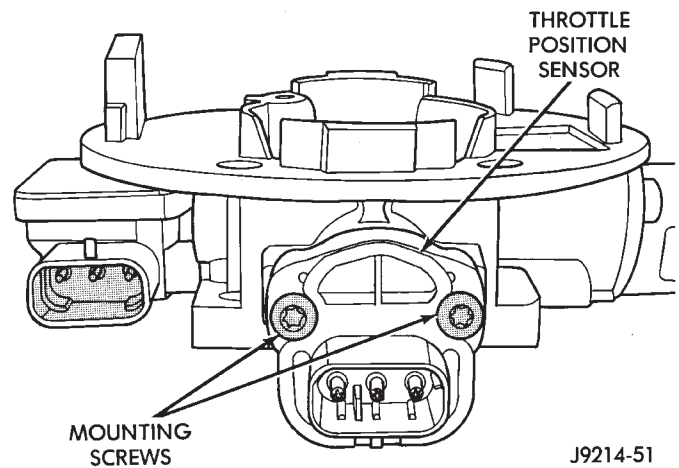

Fig. 41 TPS Mounting Screws—5.2L Engine
- (3) Remove two TPS mounting screws (Fig. 41).
- (4) Remove TPS from throttle body.